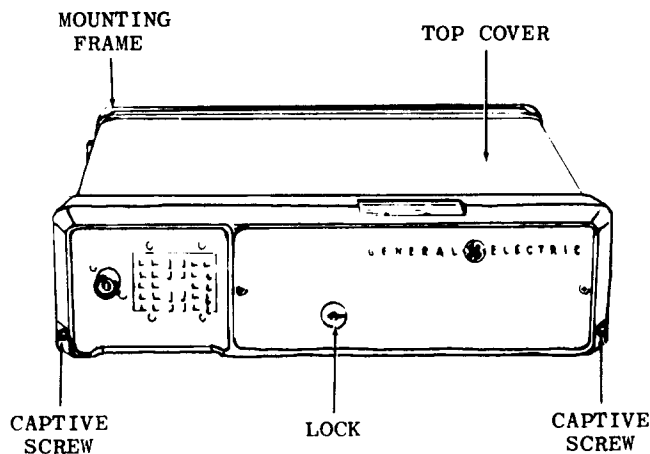

Figure 2 - Disassembly
1. Unlock the radio (see Fig. 2).
2. Loosen the two captive screws shown in Figure 2.